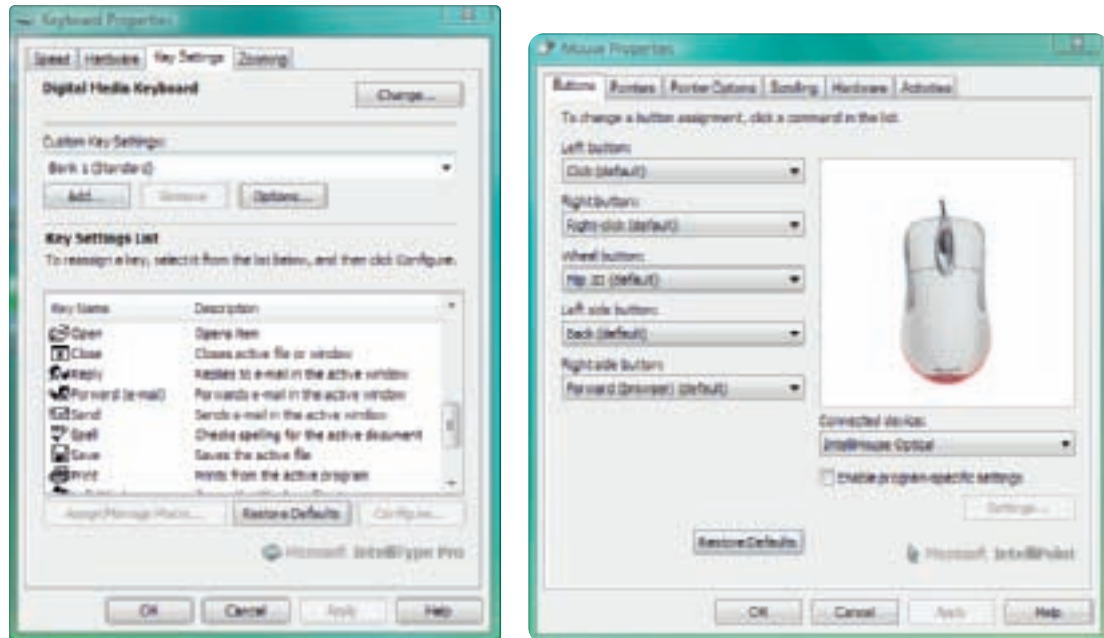

Figure 9-43 Utilities to configure the keyboard and mouse
4. Use the two utilities installed on the Windows desktop to configure the mouse and keyboard buttons (see Figure 9-43).